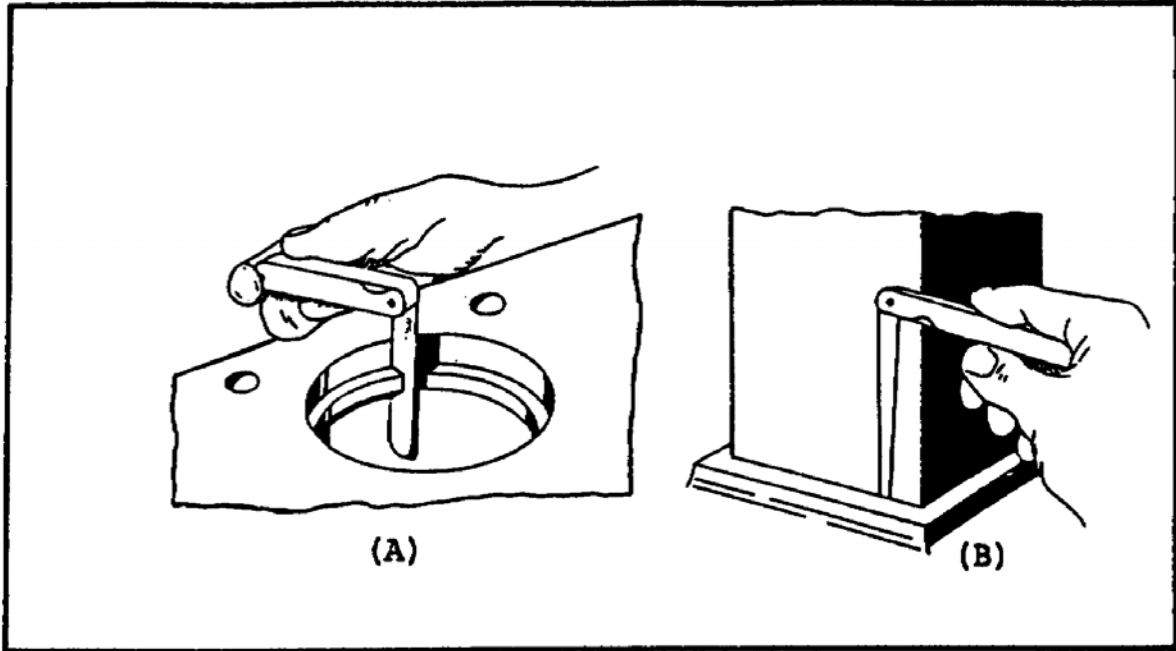

FIGURE 205. USING THICKNESS (FEELER) GAGES.
j. *Use of Thickness (Feeler) Gages.* Thickness (feeler) gages are used in one of two ways, as a means for determining a measure or a means for adjusting to a definite limit. Figure 205, view A, shows a thickness gage being used to check piston ring gap clearance in a cylinder bore. A long blade thickness gage is being used to determine the fit between large mating surfaces in figure 205, view B. By combining blades it is possible to obtain a wide variation of thicknesses.